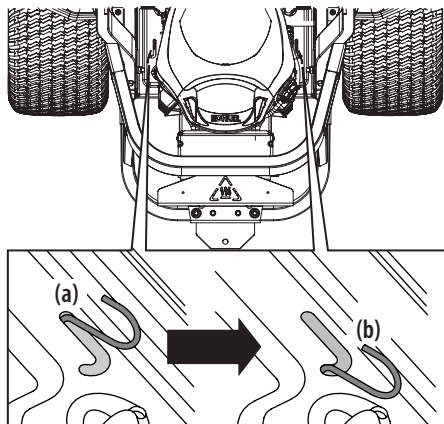
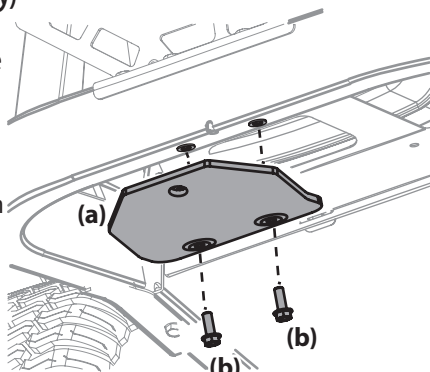

Figure 1
Figure 2
3. Align either side of the slope gauge with the object (See Figure 1 and Figure 2).
4. Adjust gauge up or down until the left corner touches the slope (See Figure 1 and Figure 2).
5. If there is a gap below the gauge, the slope is too steep for safe operation (See Figure 2 above).
- To engage the transmission bypass rods, pull the rod back (a) and into lower section of "J" slot. Repeat on opposite side. See Figure 1.
- Locate Hitch (a) and install on the rear of the frame using the two hex washer screws (b) provided. See Figure 2.